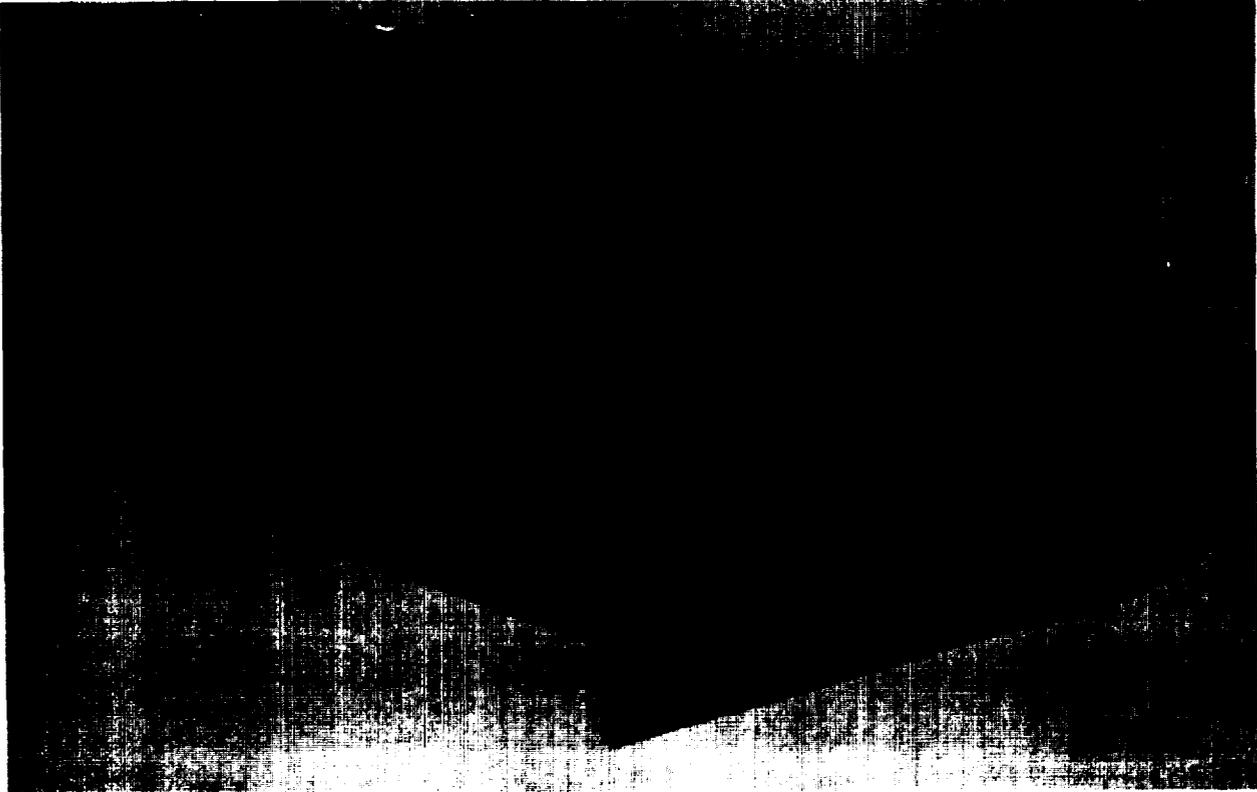

Figure 1-8. Power supply A6.
e. *Power Supply A6* (fig. 1-8). The power supply assembly is located at the lower left hand side of the rear case section, and is fastened to the rear panel by four captive screws. The power supply circuits are enclosed within a cover which is fastened down by